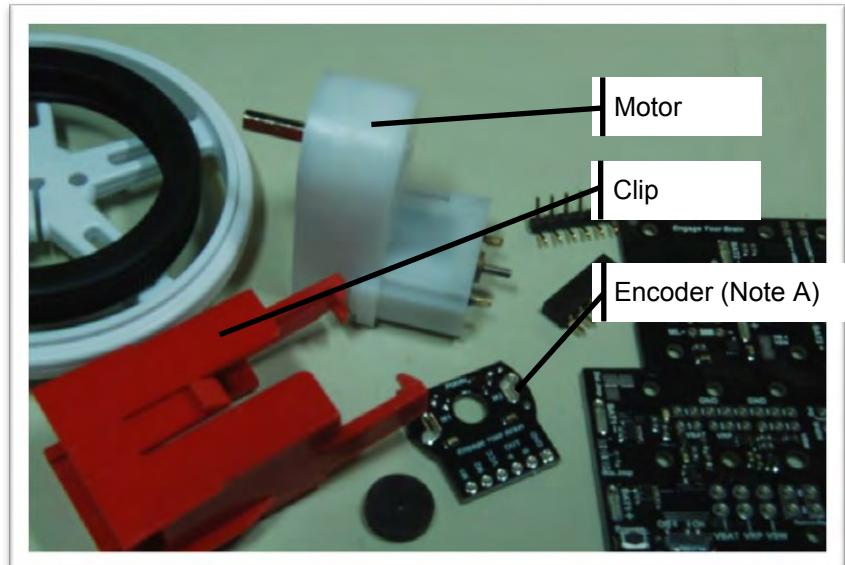

Figure 1. Parts needed to build the motor system.
The first step is to read the data sheet for the Romi chassis, and follow the directions on <https://www.pololu.com/docs/0J68/all> to connect the two wheels, caster, two motors, and motor board per instructions to the Romi chassis. Figure 1 shows some of the parts needed for the robot.
**Note A:** If you do not intend to buy and build the tachometer, labeled as Encoder in Figure 1 (used in Lab 16 with the Romi Encoder Pair Kit, 12 CPR <https://www.pololu.com/product/3542>), then you will solder four wires from the two motors to the motor board (MR+, MR-, ML+, ML-).